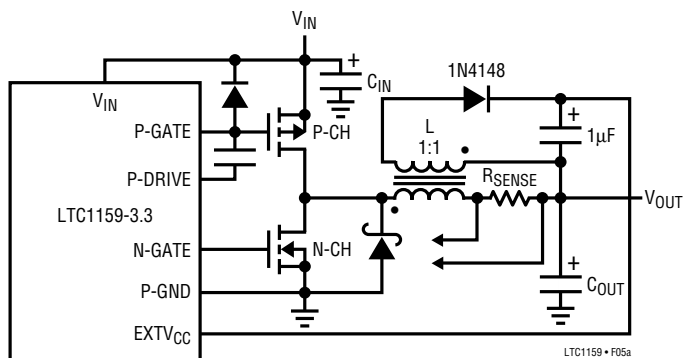
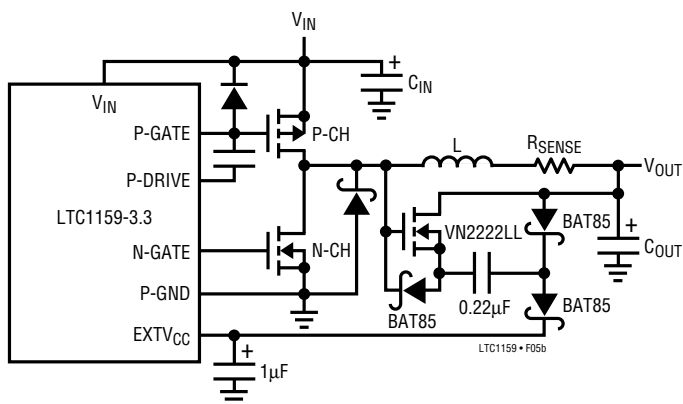

Figure 5a. Inductive Boost Circuit for $EXTV_{CC}$
Figure 5b. Capacitive Charge Pump for $EXTV_{CC}$
3. $EXTV_{CC}$ Connected to an Output-Derived Boost Network. For 3.3V and other low voltage regulators, efficiency gains can still be realized by connecting $EXTV_{CC}$ to an output-derived voltage which has been boosted to greater than 4.5V. This can be done either with the inductive boost winding shown in Figure 5a or the capacitive charge pump shown in Figure 5b. The charge pump has the advantage of simple magnetics and generally provides the highest efficiency at the expense of a slightly higher parts count.